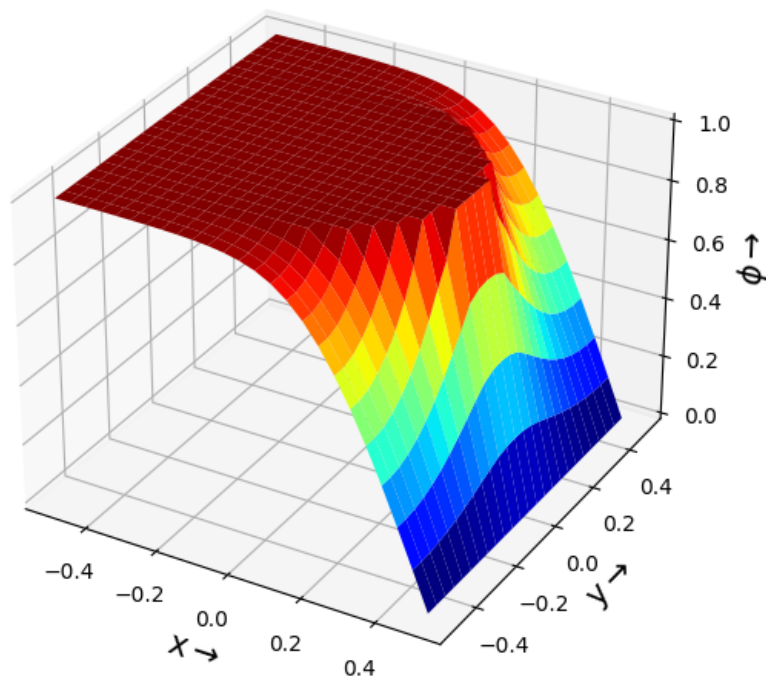

Figure 7: 3D surface plot for potential
1  fig7= plt.figure(7)
2  ax=p3.Axes3D(fig7)